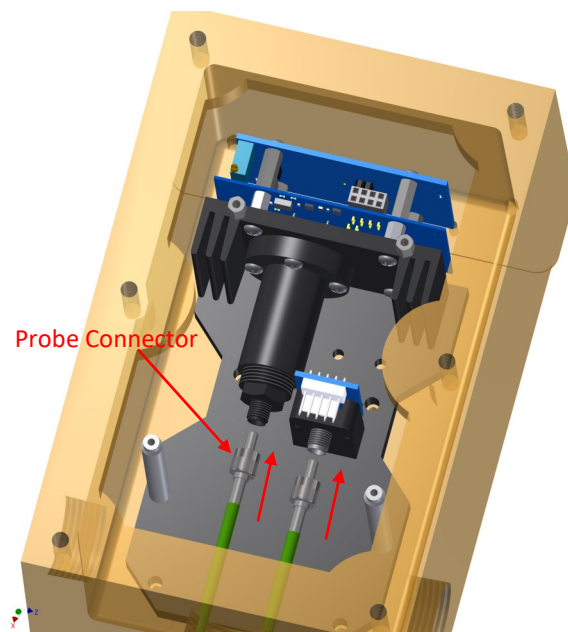

Figure 1.3.6
6. Connect the probe fibers to the Photodiode and the LED assembly. See figure 1.3.6.